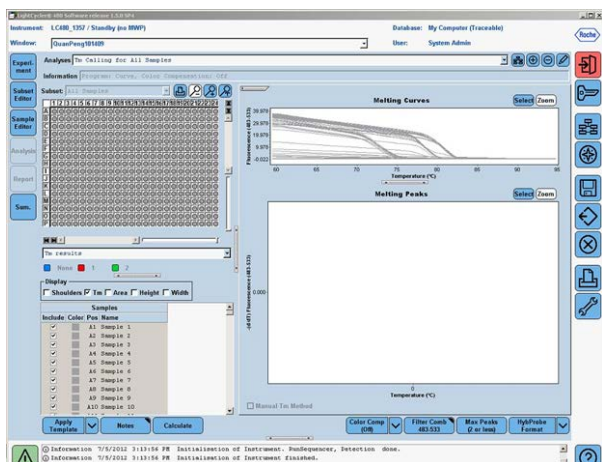

Figure 12. Generating the melt curve analysis.
28. The Analysis window with the raw melt curves will appear (Figure 12). To proceed, click the down arrow button () on the lower right corner of the screen to set the analysis to "SYBR Green I Format". Next click the "Calculate" button. The calculation may take several minutes. Once the melting peaks and Tm values appear, check the specificity of each assay by ensuring the presence of a single melt peak in each well. Then click the  button on the right panel to save the melt curve analysis as part of the run file.